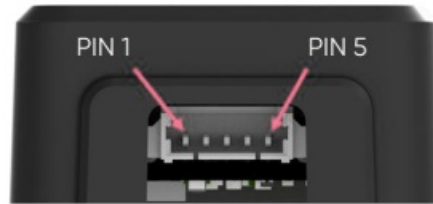

Figure. 5: LiDAR connector appearance
- Figure 5 below shows how the mode works when a high level is set to represent an object is detected.